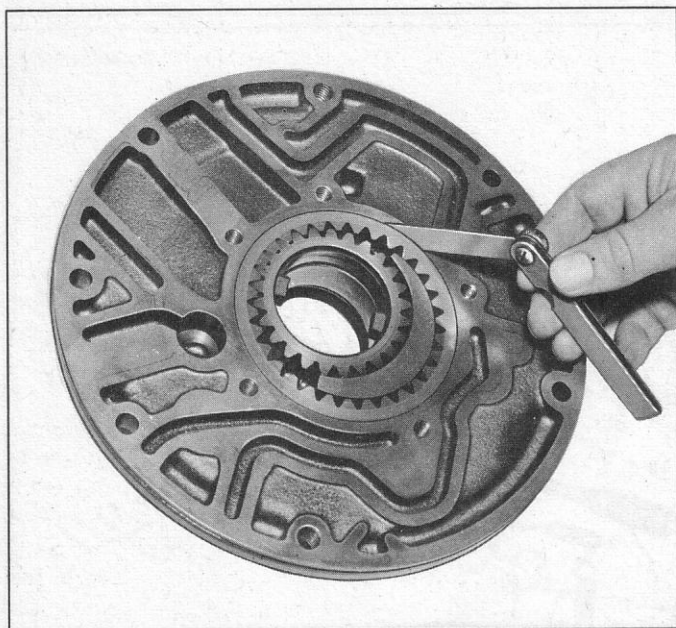

Fig. 24—Checking Driven Gear to Pump Body Clearance
- a. Clearance between O.D. of driven gear and body should be .0035"-.0065" (fig. 24).